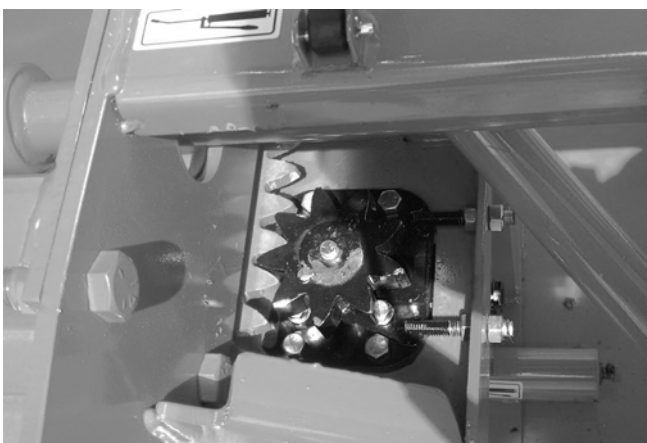

Figure 21
- 4) Using the take-up screws, adjust gear to mesh without bottoming (Fig. 21).